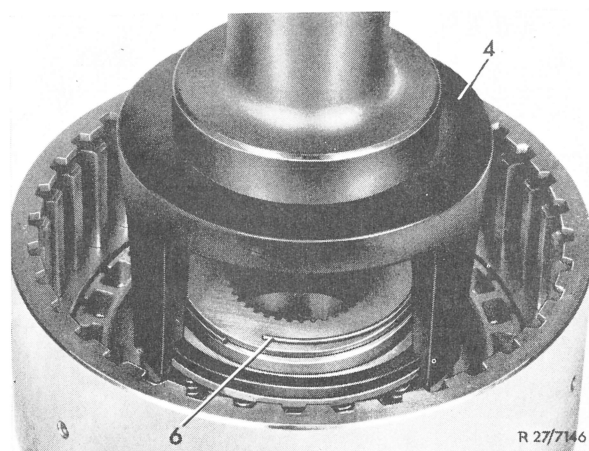

Fig. 3
3 Place assembly fixture (4) on spring retainer (5) in such a manner that the pressure ring is uniformly seated. Push spring retainer down with a press until circlip (6) is exposed and can be removed (Fig. 3).